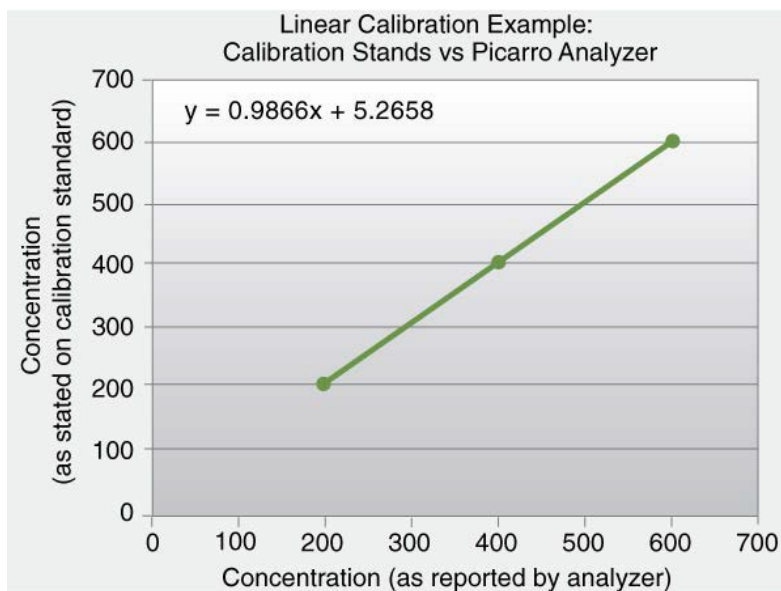

Figure 42. Linear calibration example
Open the case to access the internal components. See Figure 42. To open the case:
3. Remove the screws from the inner cover (Figure 42).